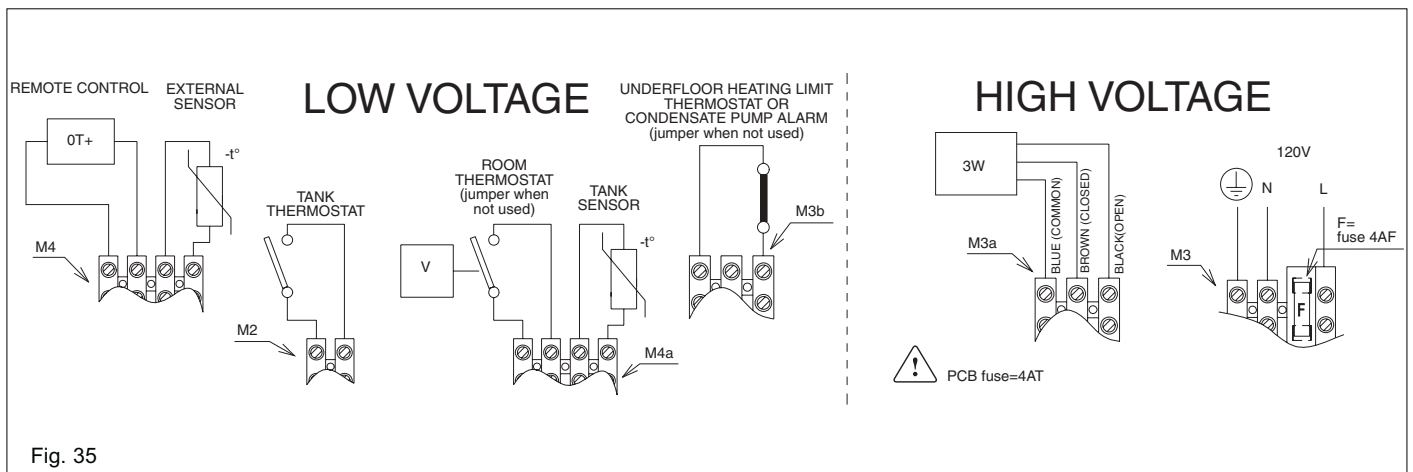

Fig. 35
NOTICE: The appliance comes with a factory installed jumper for room thermostat connection to allow basic operation of the boiler via the mode selector switch. If it is anticipated that external controls will be required please refer to the wiring diagrams (remove room thermostat jumper if there is the remote control installed on the low voltage terminal strip - M4 Fig. 35).
Boiler terminal strip (Fig. 35)
1. Connect room thermostat or end switch, terminal strip is 24V (Fig. 35 ref. M4a)
2. Once the jumper has set in DHW mode (tank with probe or tank with thermostat), when there is a heat request from the sensor or from the thermostat, there is power out (120V – 60 Hz) to the boiler terminal strip M3a (Fig. 35).